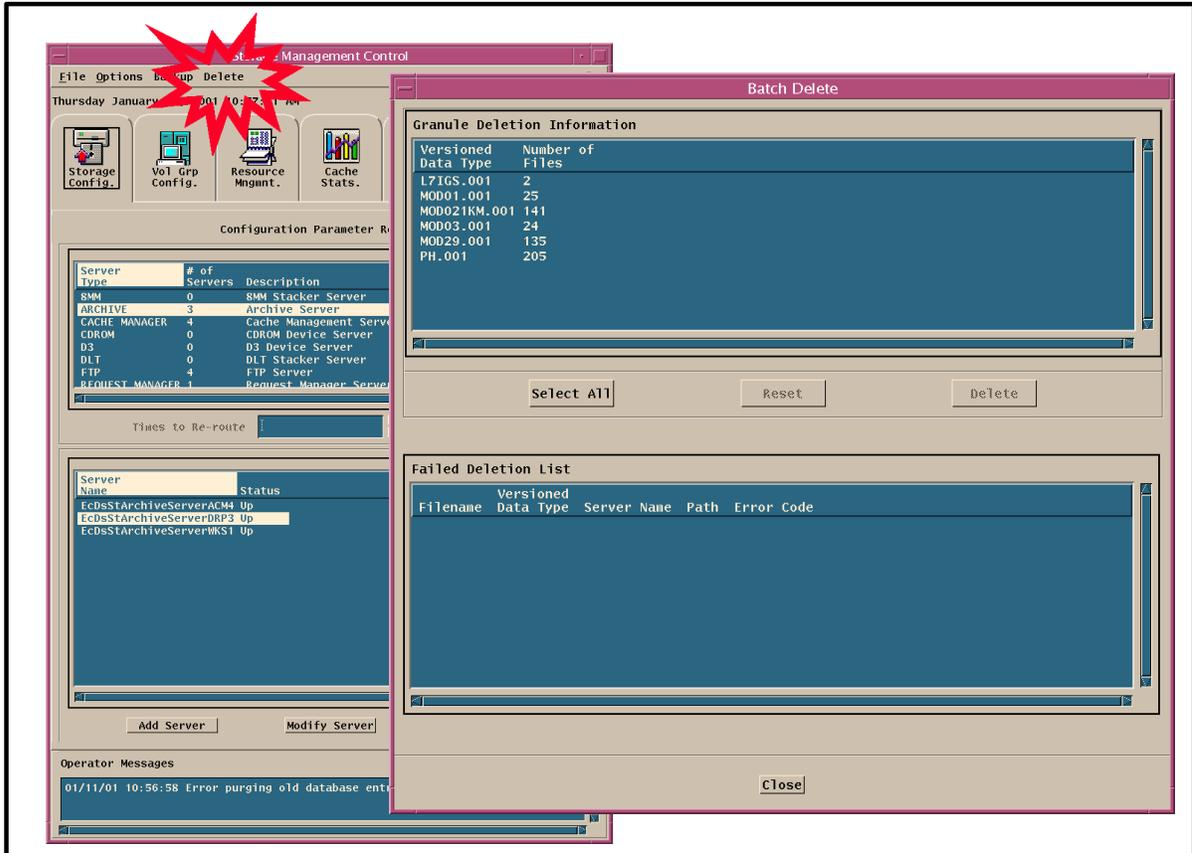

Figure 22. STMGMT GUI screen for granule deletion from archive
- *Deletion from Archive (DFA):* STMGT provides a GUI screen, as illustrated in Figure 22, that allows the operator to initiate the removal from the archive of the files listed its deletion table (populated by SDSRV). STMGT creates requests to the archive servers to delete files. The STMGT GUI can be used to look at the state of the deletion requests. Files that are successfully deleted have their associated rows removed from the STMGT database table.